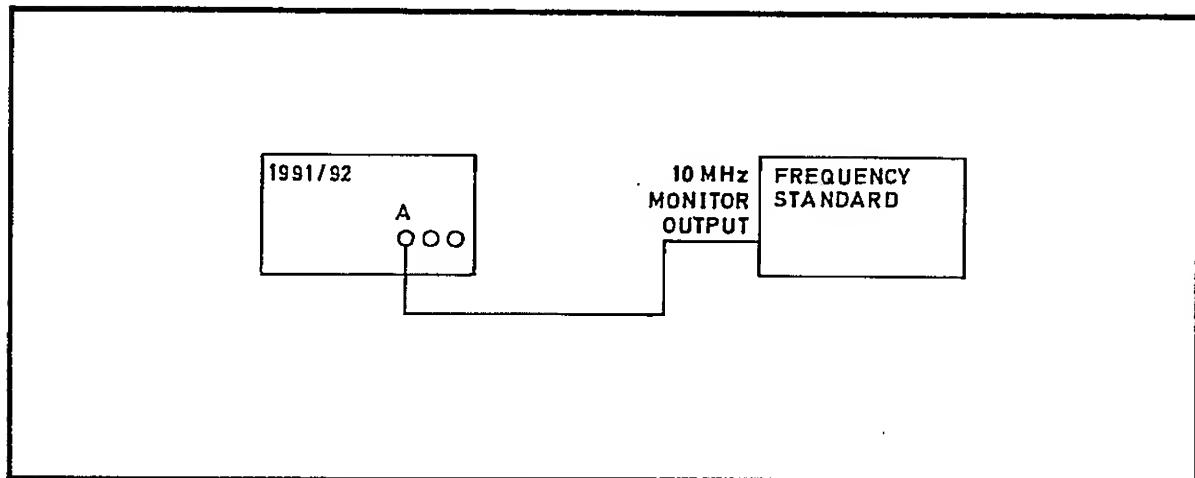

Fig 7.26 Connections for Internal Frequency Standard Adjustment
(2) Connect the test equipment as shown in Fig 7.26.